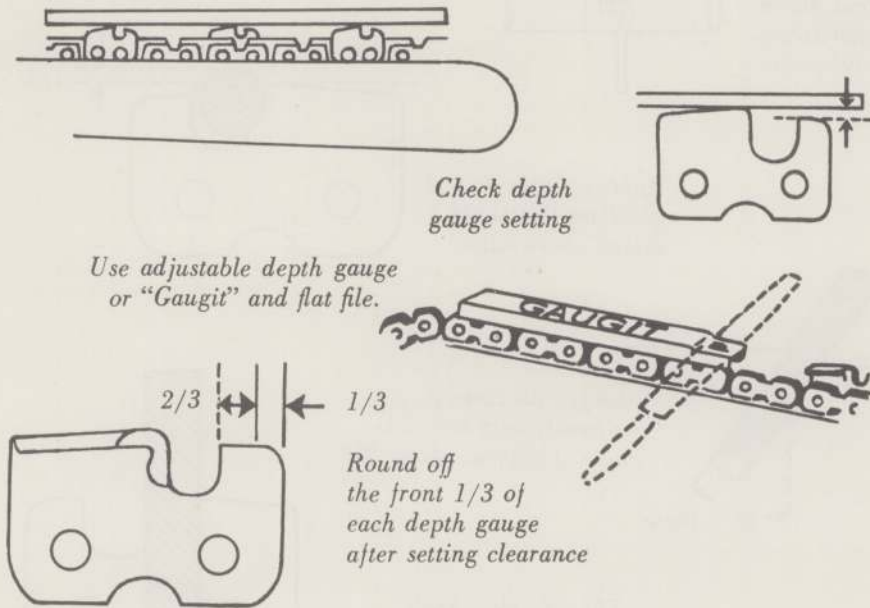

Figure 11—Filing Depth Gauges
(3) SET DEPTH GAUGE CLEARANCE (See figure 11)
(c) After filing gauges, be sure to round off the front parts of the gauges uniformly as shown in figure 11. This facilitates smooth entry into the cut.